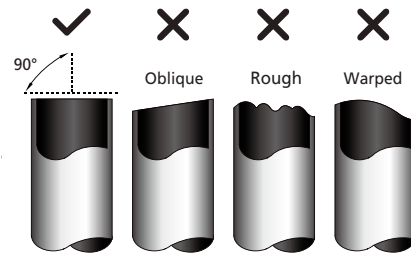

Fig. 6.1
1. Make sure that the pipe is cut at a perfect 90° angle. Refer to Fig. 6.1 for examples of bad cuts